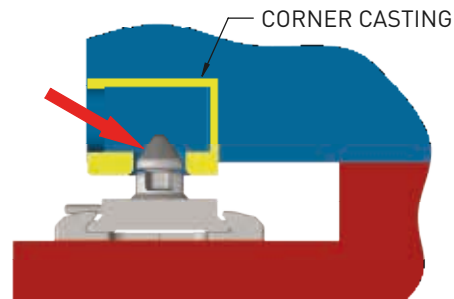

FIGURE 3
- **Figure 3:** The recess is not deep enough and a standard twistlock is used